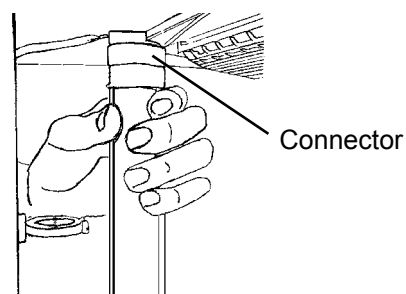

Fig. 1
5. Pull the fluorescent light towards the rear together with the cover, as shown in Fig. 1, together with the wiring.